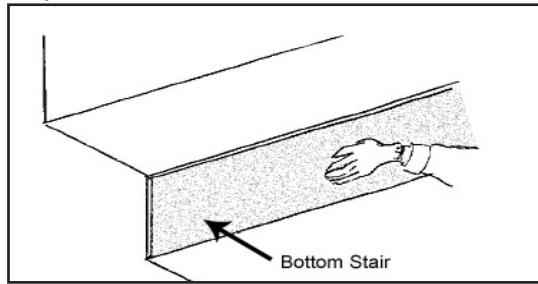

Fig. 1
- Trim top of riser material such that material is flush with first step, ensuring no protrusions. See Fig. 1.
- Place-and-press the precut riser only material to adhere to the riser of the bottom stair. Make sure the top edge of the sheet does not protrude above the edge. See Fig. 1.